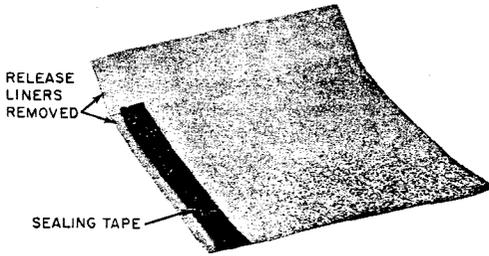

Fig. 9—Release Liners Removed
- (i) Remove the release liners from the adhesive overlap and sealing tape (Fig. 9).